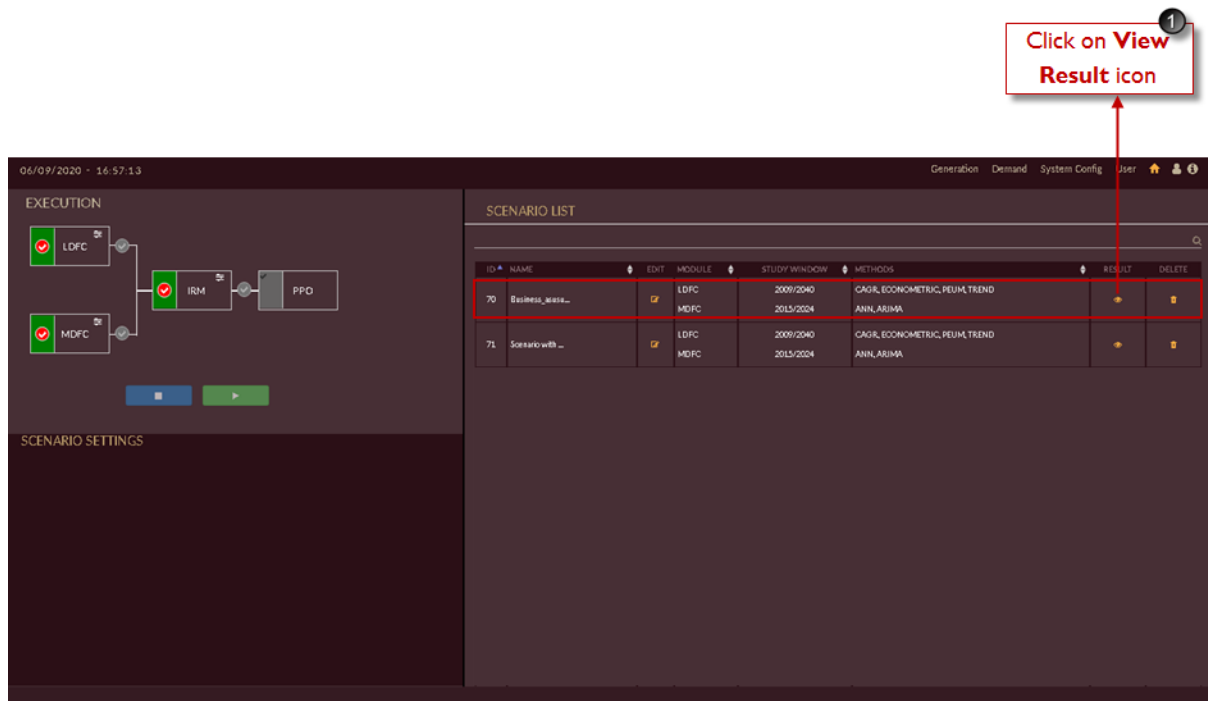

Figure I 11. First Step to Run Probabilistic Analysis
1. Click on the **View Results**  icon on the Scenarios list table. We have shown for Business as Usual scenario in Figure I 11.